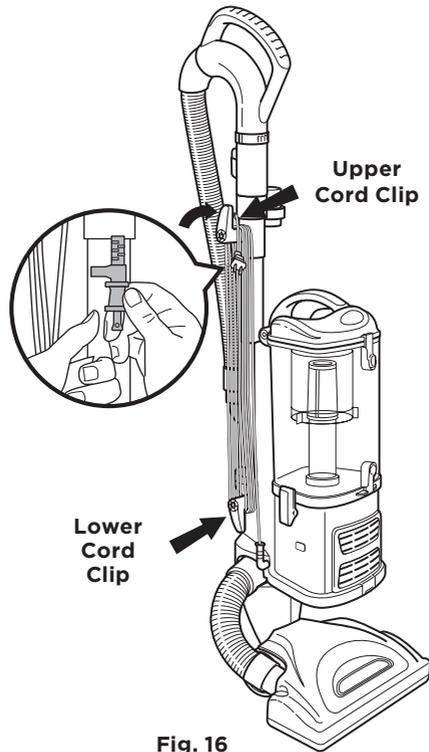

Fig. 16
- 2 Rotate the upper cord clip to its upright position and coil the power cord loosely around the two clips. Clip the plug onto the cord to secure. **(Fig. 16)**